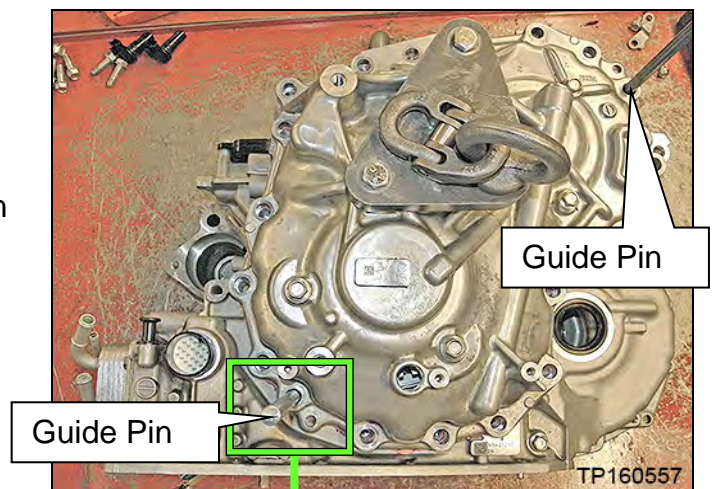
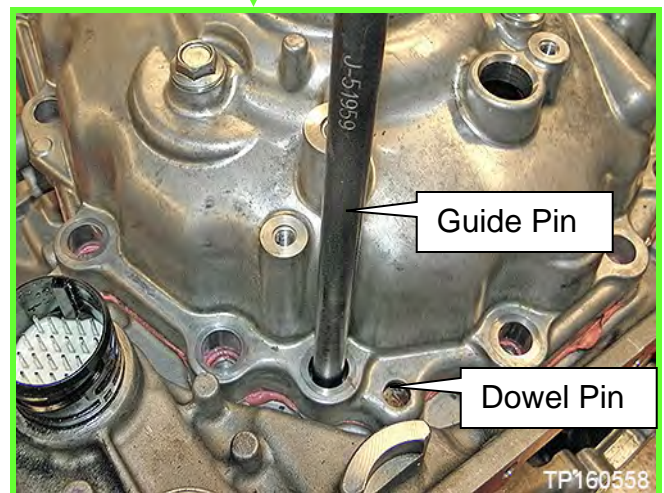

Figure 10F
Figure 11F
8. Install the two alignment Guide Pins (J-51959 - Guide Pins) as shown in Figure 10F and Figure 11F.
- Guide Pins must be placed next to dowel pins (Figure 11F).